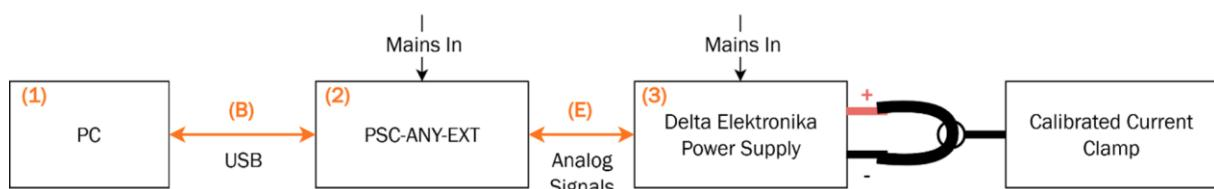

Figure 7.2: CC-Calibration setup
Make sure that the conductor between the output terminals during CC-calibration is thick enough to handle the maximum current the power supply can provide. The power supply will be set to 100% current during calibration. Make sure that each step is read and executed carefully. See Figure 7.1 and Figure 7.2 for the individual calibration setups.
2. Set up the current calibration configuration as seen in Figure 7.2.